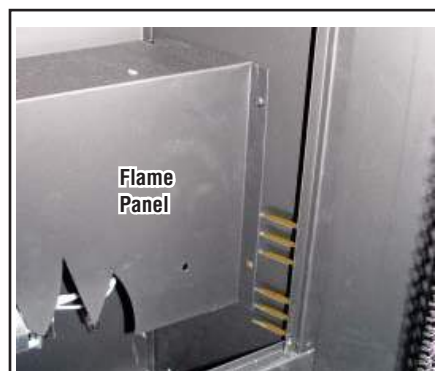

Figure 16
- ii. using a phillips screwdriver, remove the flame panel (see **Figure 16**).